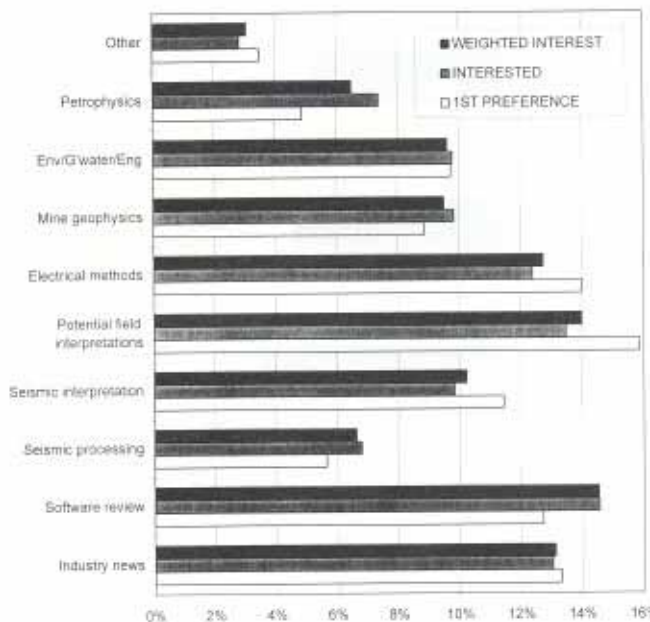

Figure 2. Interest in Technical Articles
**Technical Interest:** In Figure 2 overall interest in technical articles in ASEG publications is shown.